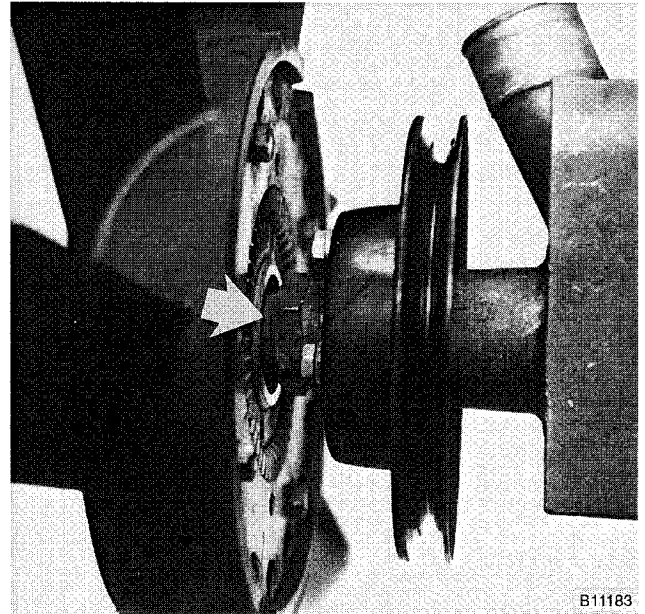

Fig. 8. Radiator cooling fan nut (arrow). Nut has left-hand threads.
1. Using a 32 mm wrench on fan clutch nut, turn wrench quickly in a clockwise direction (working from front of car) to loosen. Spin fan off pump. See Fig. 8.